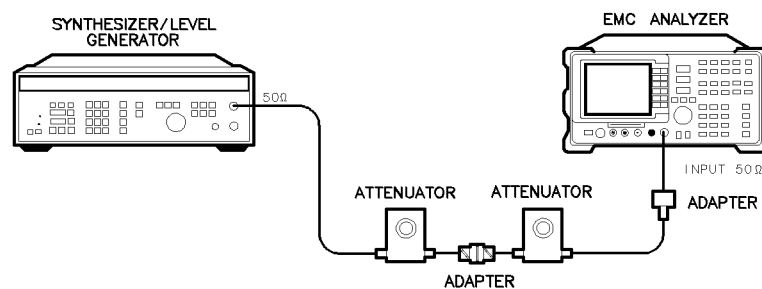

Figure 2-16. Scale Fidelity Test Setup
2. Connect the equipment as shown in Figure 2-16. Set the 10 dB step attenuator to 10 dB attenuation and the 1 dB step attenuator to 0 dB attenuation.